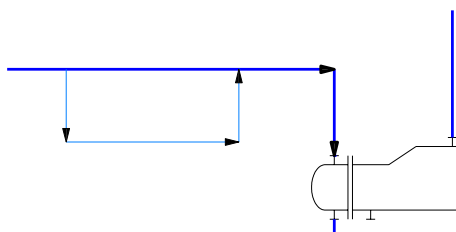

Figure 2-43 Loop created on line connecting the steam inlet nozzle
13. Choose the **Secondary Line Segment** tool from the **Lines** tab in the **TOOL PALETTES - P&ID PIP** and create a loop on the line connecting the steam inlet nozzle of the heat exchanger, as shown in Figure 2-43.